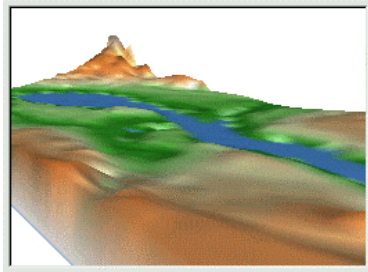

Figure 14.7. **Solid** – continuous colour surface
- 1 **Modeling** specifies two ways of representing the rendered surface: **Solid** and **Wireframe**. **Solid** renders the scene with a continuous colour and **Wireframe** renders the scene with a wireframe mesh. See Figures 14.7 and 14.8.